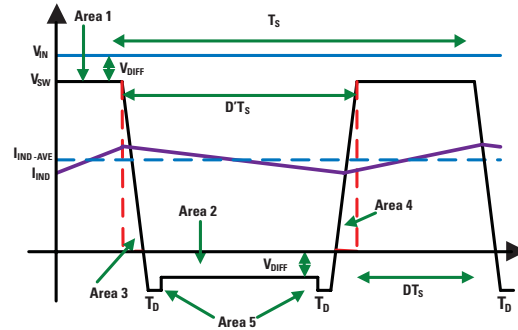

Figure 3. Losses within a Buck Converter
*Figure 3* is an illustration of the typical switch-node voltage and inductor-current waveform. These waveforms explain the losses in one switching cycle.
Switching losses occur during the transition from one MOSFET being turned on while the other MOSFET is being turned off. *Figure 3* illustrates that this transition occurs twice in one switching cycle (Area 3 and Area 4). The inductor current is continuous; therefore there will always be a path for this current even if both MOSFETs are off. The synchronous MOSFET body diode conducts the current during the dead time when both MOSFETs are off. A typical switching cycle is as follows: Start with the control MOSFET on, and the synchronous MOSFET off. At time  $DT_S$ , the converter's loop signals the control MOSFET to turn off. Both